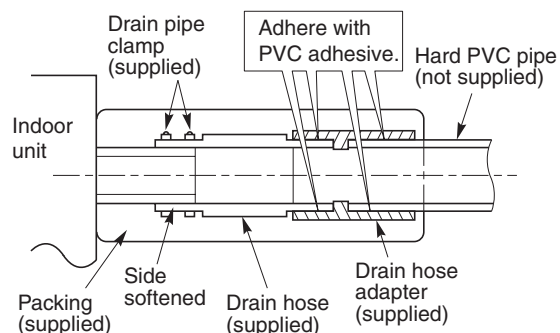

Fig. 1-66
- Use the supplied drain pipe to connect the drain pipe with the drain outlet of the indoor unit. (Fig. 1-66)